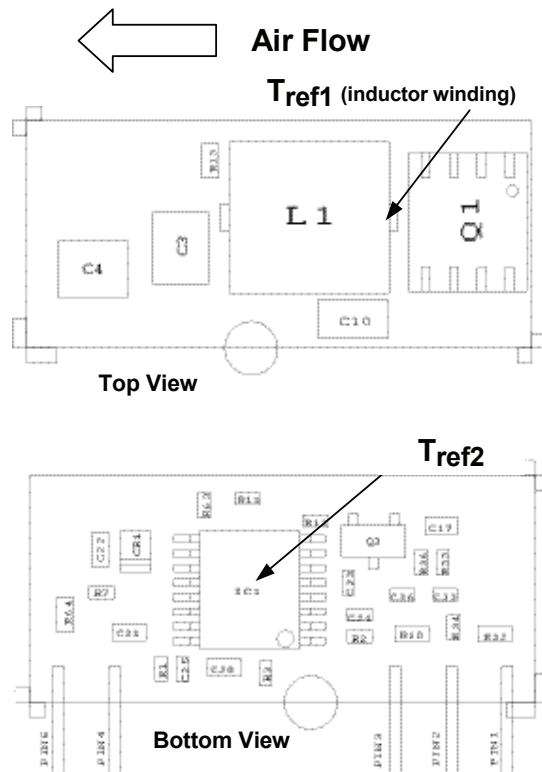
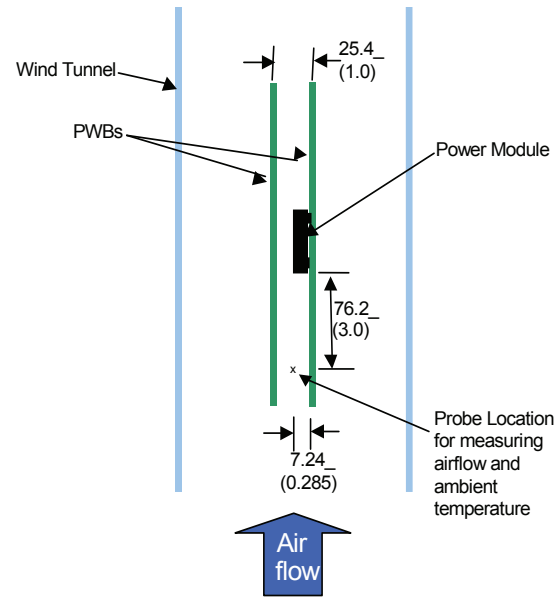

Figure 32. T_{ref} Temperature measurement location.
Figure 33. Thermal Test Set-up.
Considerations include ambient temperature, airflow, module power dissipation, and the need for increased reliability. A reduction in the operating temperature of the module will result in an increase in reliability. The thermal data presented here is based on physical measurements taken in a wind tunnel. The test set-up is shown in Figure 33. Note that the airflow is parallel to the long axis of the module as shown in figure 32. The derating data applies to airflow in either direction of the module's long axis.
The thermal reference point, T_{ref1} used in the specifications of thermal derating curves is shown in Figure 32. For reliable operation this temperature should not exceed 125°C. The output power of the module should not exceed the rated power of the module ($V_o, set \times I_o, max$).